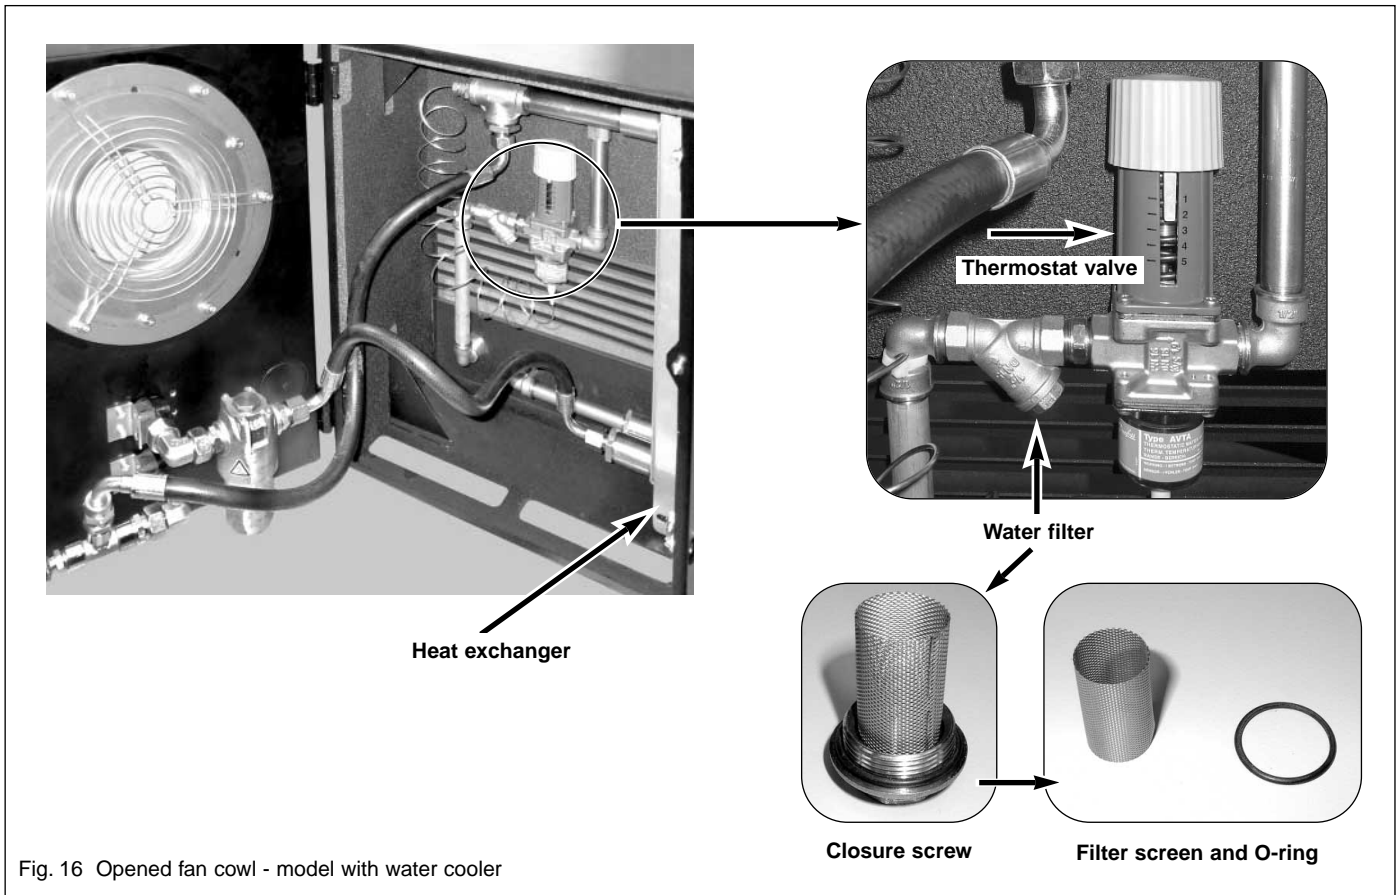

Fig. 16 Opened fan cowl - model with water cooler
- The thermostatic valve (Fig. 16) should be set to 2.5 (factory default) and then close the fan cowl.
During normal operation the oil temperature will be  $40\text{ }^{\circ}\text{C} \pm 3\text{ }^{\circ}\text{C}$ , provided a setting of 2.5 is used on the thermostat valve (Fig. 16).
The water filter (Fig. 16) should be subjected to maintenance in **regular** intervals. The cleaning intervals will depend on the quality of the cooling water. However, the filter screen (Fig. 16) should be replaced at least once a year.
- Fully open the thermostat valve (Fig. 16); position below 1.